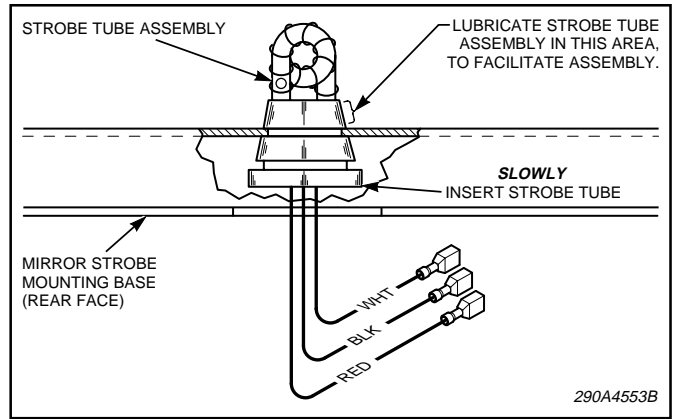

Figure 6.
f. See figure 6. SLOWLY insert the new strobe tube in the mounting bar until it is properly seated in the top slot of the strobe tube. If the strobe tube is difficult to insert, remove it and apply a high temperature grease, or Vaseline, to the rubber edge of the strobe tube and try again.